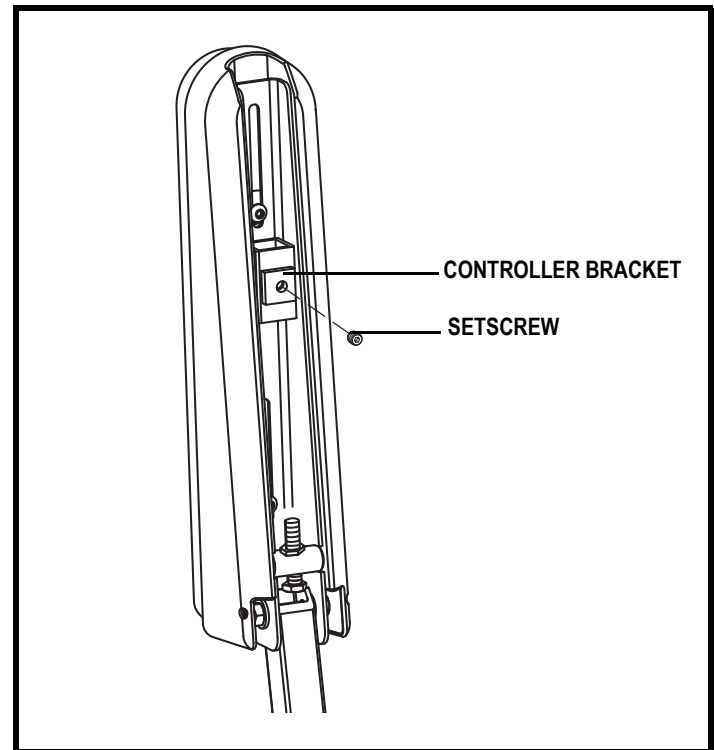

Figure 19. Underside of Armrest
2. Loosen the setscrew on the controller bracket. See **figure 19**.
6. Loosen the setscrew on the controller bracket. See **figure 19**.